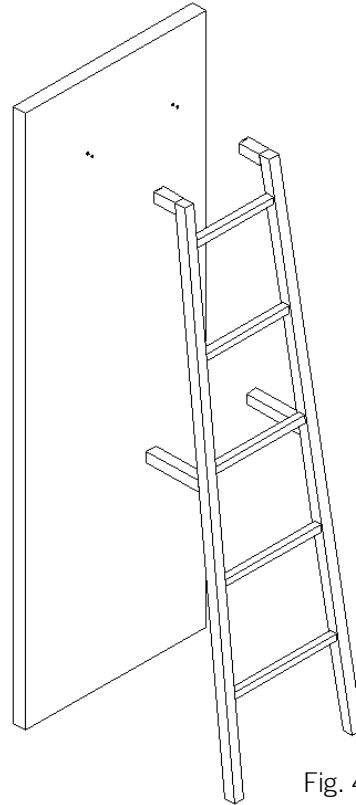

Fig. 4
8. Attach the assembled ladder to the wall. (Fig. 4)